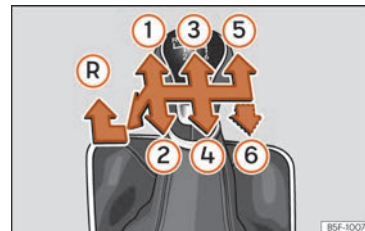

Fig. 55 Gear shift pattern of a 5 or 6-speed manual gearbox.
The position of the gears is indicated on the gearbox lever » Fig. 55.
- » **Fig. 55** (R).